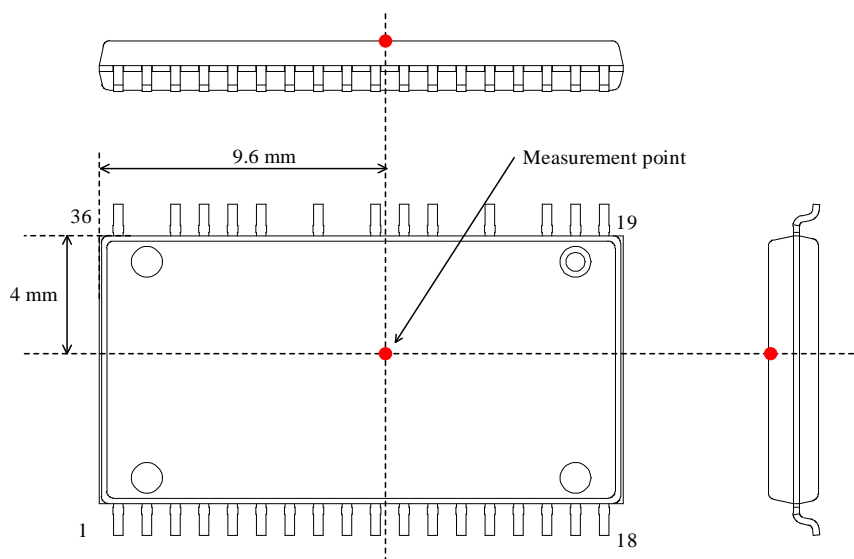

Figure 3-2. Case Temperature Measurement Point
* Refers to a case temperature at the measurement point described in Figure 3-2. Mounted on a CEM-3 glass (1.6 mm in thickness, 35 μm in copper foil thickness), and measured under natural air cooling without silicone potting.